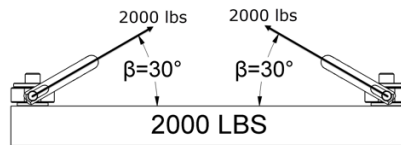

Fig 5
- Depending upon the sling angle, the applied load may be more than the weight being lifted i.e., two-point lifting of a 2000 pounds weight with a horizontal sling angle of 30° will result in an applied load of 2000 pounds to each hoist ring! (chart above & Fig.5)